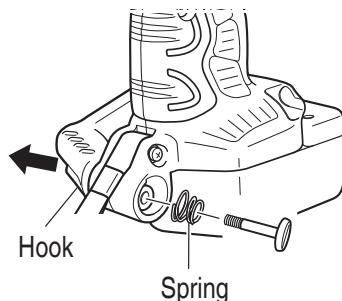

**Fig. 11**
- (a) Securely hold the main unit and remove the screw using a slotted head screwdriver or a coin (**Fig. 11**).